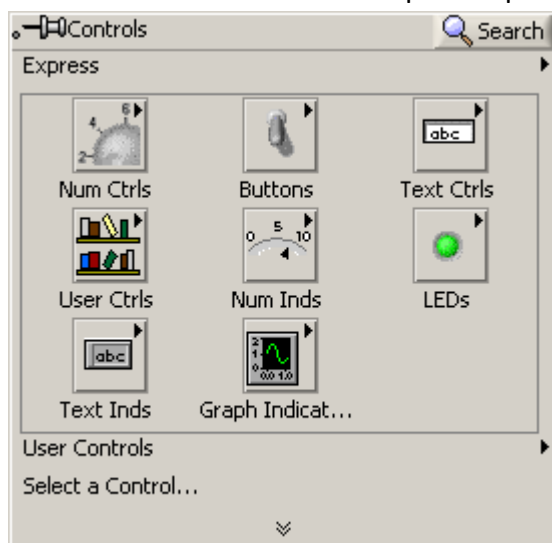

Figure 5-1, Controls Palette
- If the **Controls** palette shown in Figure 5-1 is not visible on the Front Panel, select **View » Controls Palette**.